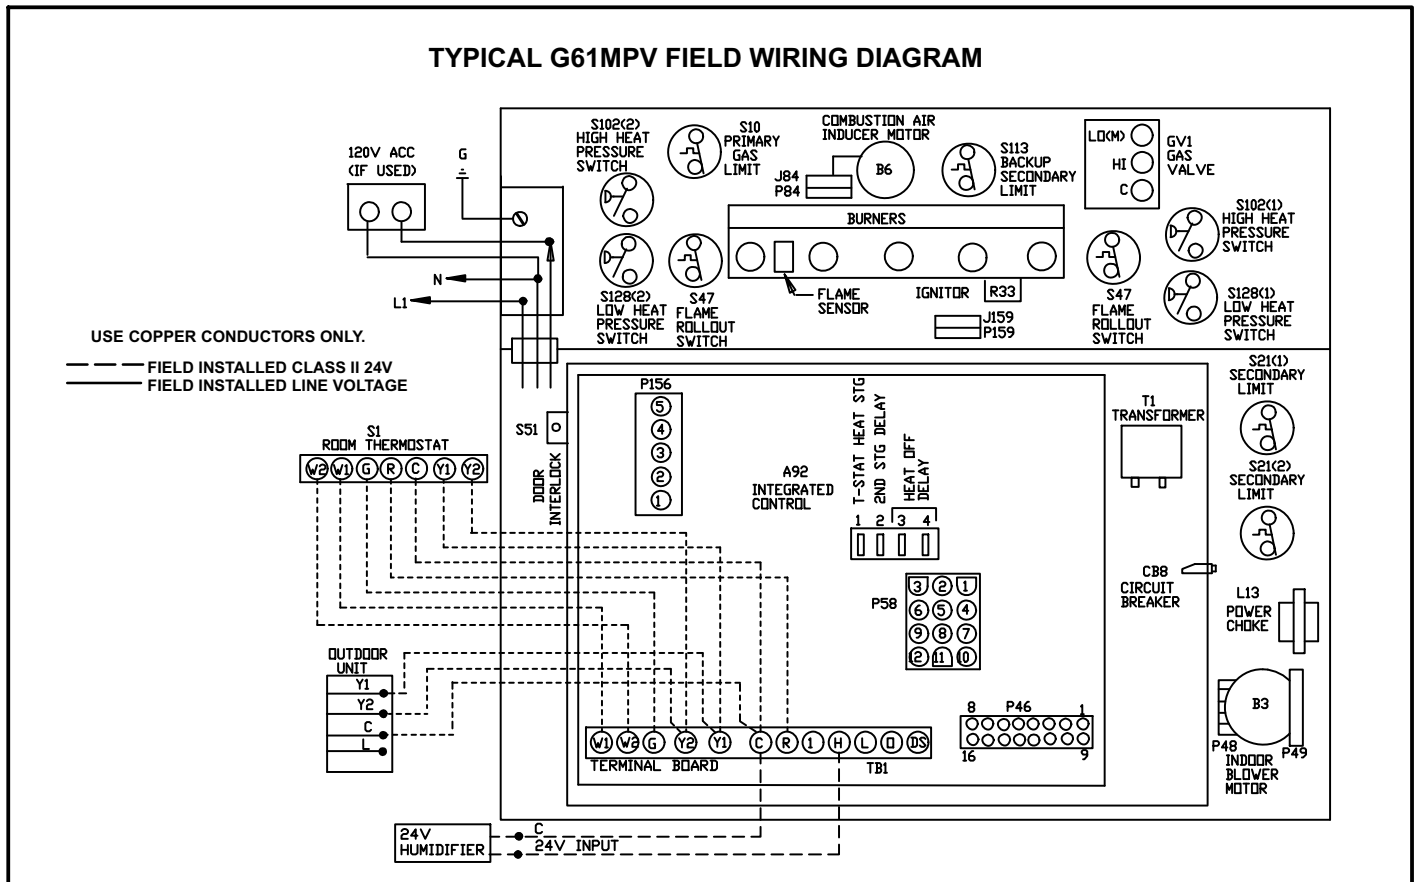
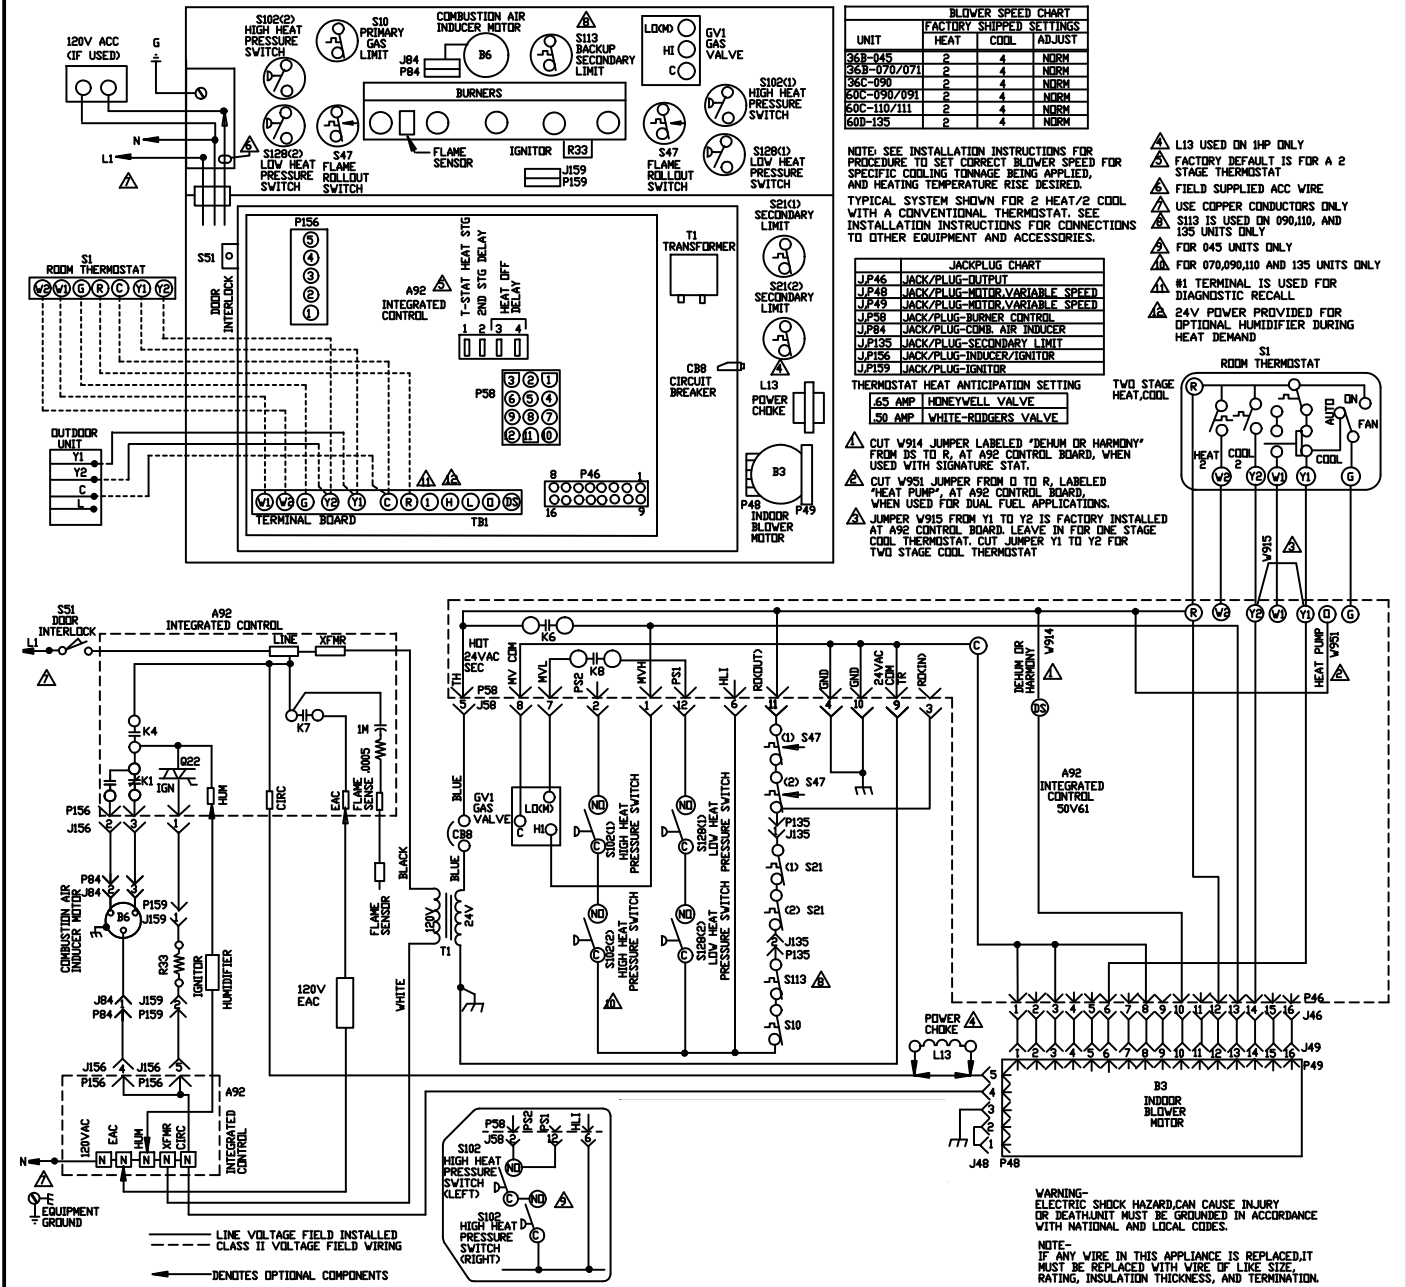

FIGURE 51
FIGURE 54
Refer to figure 51 and table 10 for field wiring and figure 54 for schematic wiring diagram and troubleshooting.
- 5 - Complete the wiring connections to the equipment. Use the provided unit wiring diagram and the field wiring diagram shown in figure 51 and table 10. Use 18-gauge wire or larger that is suitable for Class II rating for thermostat connections.